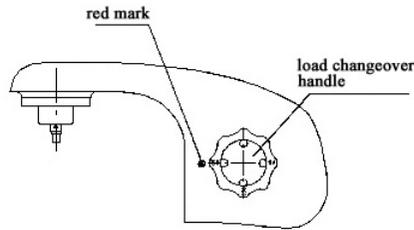

Figure 10
- b. Turn the load changeover handle (24) to the position of 150kgf and make sure that the Number 150 on the handle aligns with the red mark, as shown in Fig 10.
Turn the load changeover handle until the number of selected test force points to the red mark (see Fig 10).